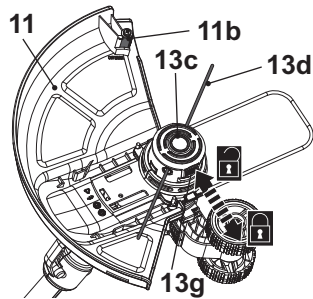

Fig. 24
1. Turn trimmer head (13) upside down.
2. Press the release push button (13g) while pulling on the trimming line (13d). The trimming spool (13c) will release the trimming line (Fig. 24).